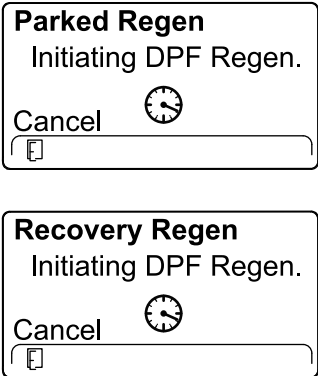

Figure 65
- The InfoCenter displays the INITIATING DPF REGEN message (Figure 65).